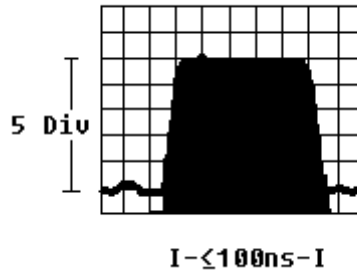

Figure 10. Pulse modulated display.
The next several tests require that you adjust the oscilloscope as necessary to obtain a centered 5 division pulse as shown in figure 10.
- (5) Press oscilloscope controls as listed in (a) through (h) below:
- (6) Adjust oscilloscope as required for centered five division pulse as in figure 10.